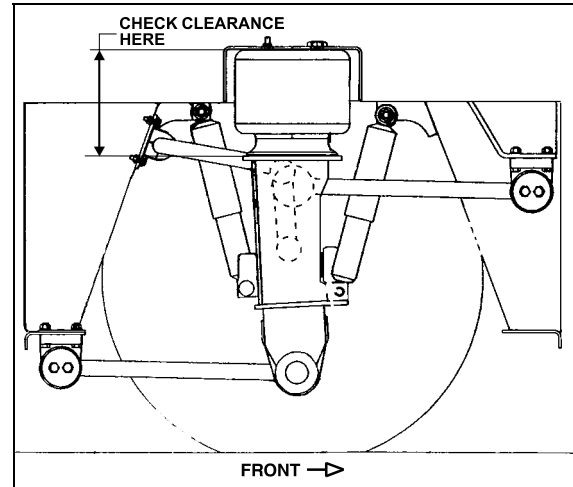

FIGURE 43: TYPICAL AIR SPRING CLEARANCE, FRONT I-BEAM AXLE 16108
1. With the vehicle at normal operating air pressure, check the air spring clearance as illustrated in figure 43. This clearance should be $12 \pm \frac{1}{4}$ " (305 ± 6 mm) for the front